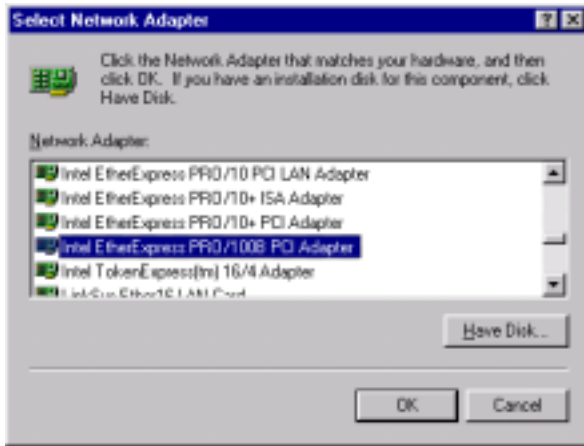

Figure 2-17. Select Network Adapter Window
- [] 3. If the adapter that is installed in the PC is not on the list, click **Add**. The **Select Network Adapter** window (*Figure 2-17*) is then displayed.